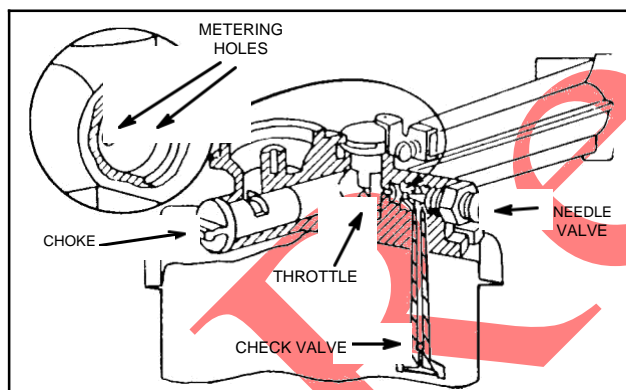

Fig. 136 - METERING HOLES
**NOTE:** Do not change metering hole sizes, Fig. 136.